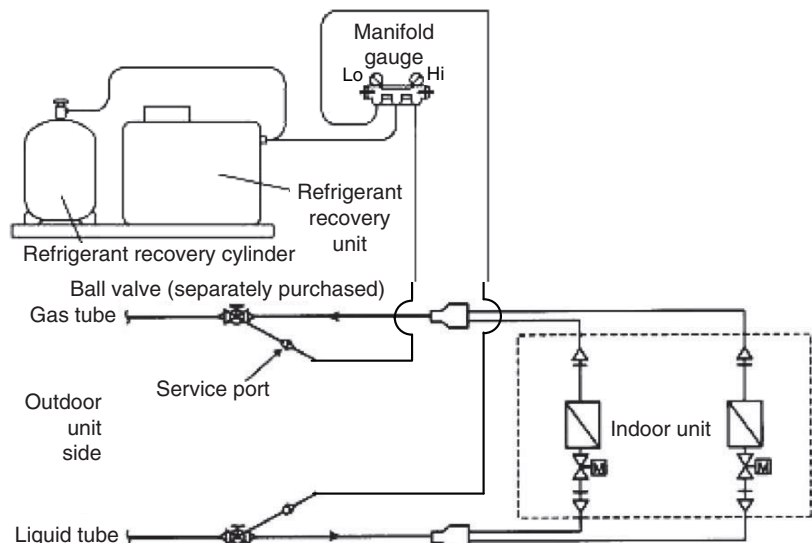

Fig. 10
- (1) If a ball valve with a service port has been provided in the indoor unit as shown in Fig. 10, follow the instructions given in (2) through (6) below. If the service port is instead located in the outdoor side, follow the instructions in “5-2-3. Refrigerant recovery procedures (2).”
- (2) After running the unit in Cooling mode for about 5 minutes as described in “5-2-1. Cooling operation (for all units),” fully close the liquid tube ball valve.
- (3) Run the unit in Cooling mode for 10 to 20 minutes more.
- (4) Fully close the gas tube ball valve, and stop the operation of all units.
- (5) Use hoses to connect the manifold gauge valves, refrigerant recovery unit, and refrigerant recovery cylinder with each other. (Fig. 10) Do each connection quickly to prevent air from entering the tubing.